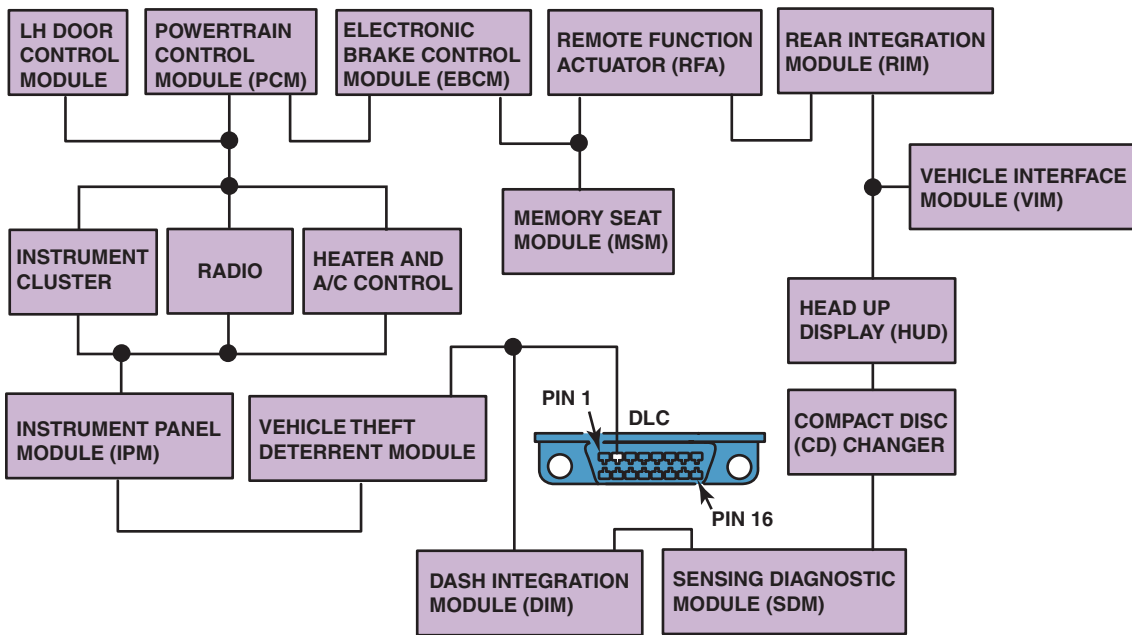

FIGURE 14-3 A ring link network reduces the number of wires it takes to interconnect all of the modules.
1. **Ring link networks.** In a ring-type network, all modules are connected to each other by a serial data line (in a line) until all are connected in a ring. ● **SEE FIGURE 14-3.**